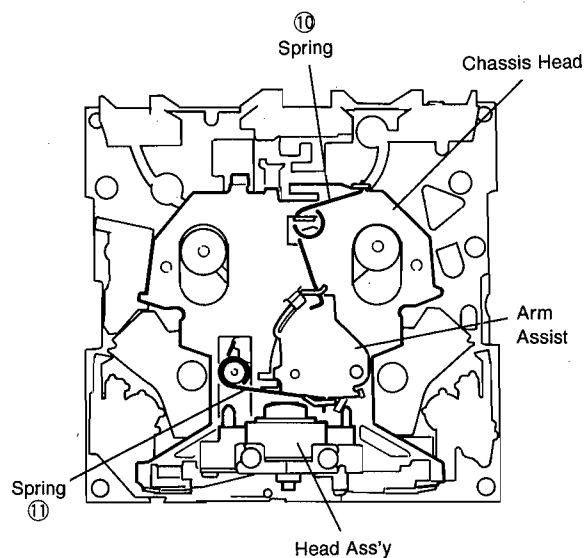

Fig. 6
- Detach 2 Springs (10 and 11) and then remove the Arm Assist in Fig. 6.